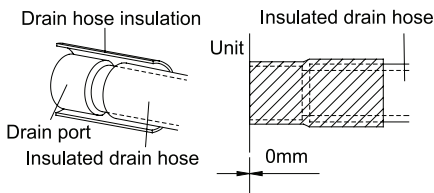

Fig.28
- (9). Be sure to insulate where the drain port and the drain hose is connected.(Fig.28 )